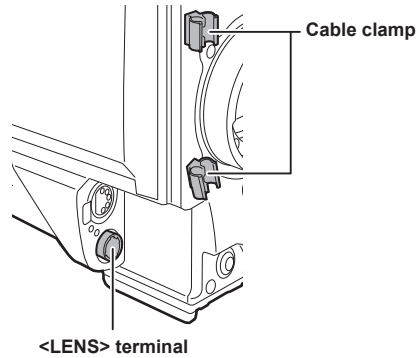

Fig. 4
- 4** Secure the cable through the cable clamp and connect it to the <LENS> terminal. (Fig. 4)